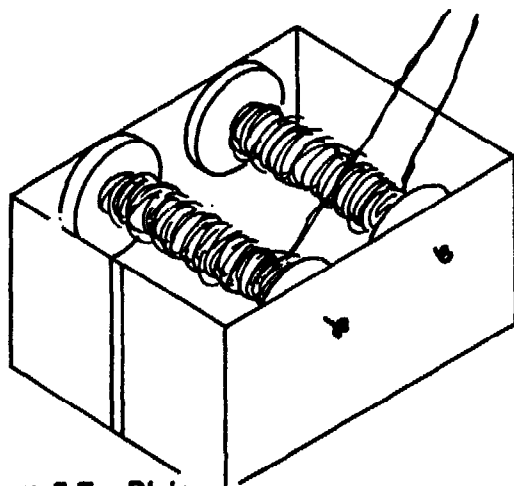

Figure 5.7 – Plying
- Put the two *bobbins* with the two yarns to be plied in a spool rack made from wood or a cardboard box and thin pieces of iron rods which fits inside the bobbins (figure 5.7).